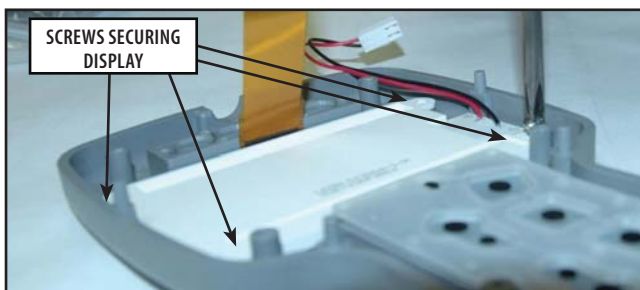

FIGURE 6.27
2. Using a #1 Phillips screwdriver, remove the 4 screws securing the Pendant Display to the Upper case of the Pendant. **Refer to Figure 6.27.**